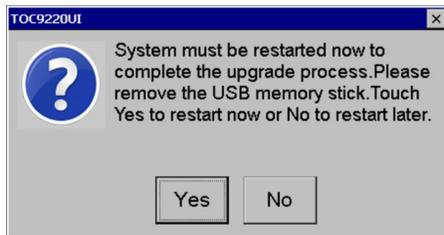

Figure 4.56 System Restart
7. Once the upgrades have been completed, the 9220 system will need to be rebooted again by the operator (Figure 4.56).